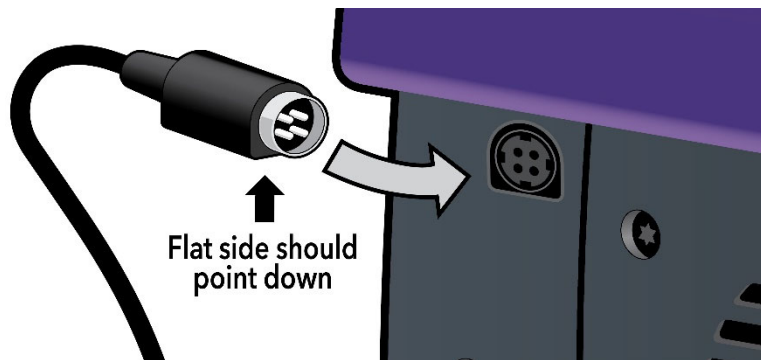

Figure 4
- With the flat side of the instrument connector facing down, hold firmly to the connector and plug into the power port in the back of Solana (**Figure 4**).